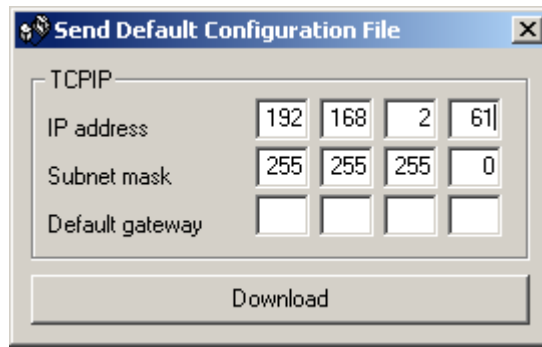

Fig 1. IP settings for default configuration
- Start the menu command “Send default configuration file”. The software will request you to specify the complete IP parameter settings for the NK822x, namely IP address, Subnet mask and Default gateway (Fig 1).